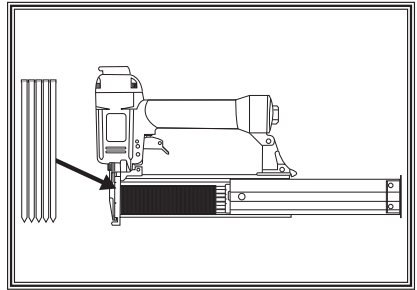

Figure 3. Loading nails into magazine.
3. Insert a strip of nails, pointed-end down, into the magazine, as shown in **Figure 3**.